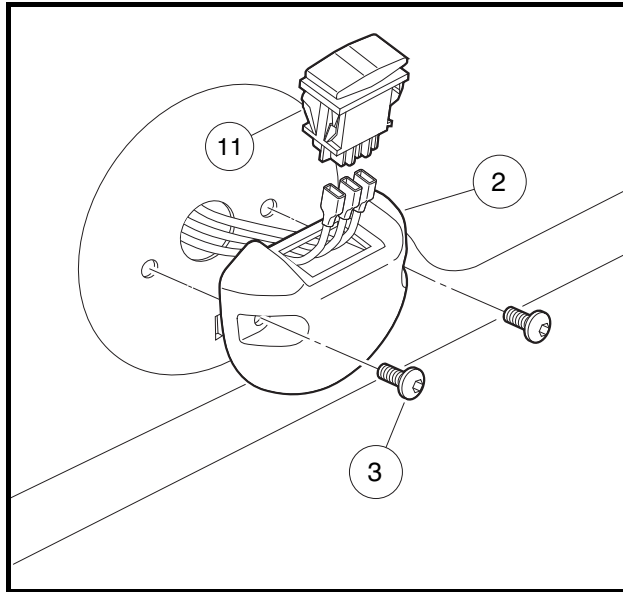
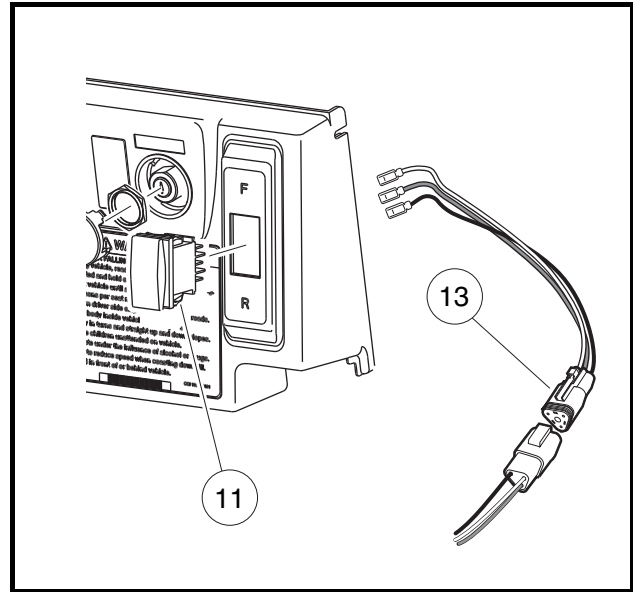

Figure 13-4 Forward/Reverse Rocker Switch
Figure 13-5 Forward/Reverse Rocker Switch
- 2.1. DS Villager 4: Remove two screws (3) that hold Forward/Reverse rocker switch housing (2) to body (**Figure 13-4, Page 13-5**).
1. Press the locking tabs (11) on each end of the rocker switch and push switch into Forward/Reverse rocker switch housing (or dash panel) (**Figure 13-4, Page 13-5**) (**Figure 13-5, Page 13-5**).
- 3.1. DS Villager 4: Install two screws (3) that hold Forward/Reverse rocker switch housing (2) to body. Tighten to 20 in-lb (2.3 N·m) (**Figure 13-4, Page 13-5**).